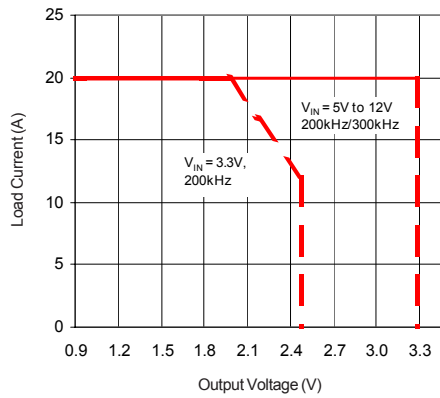

Fig 5. Recommended Operating Area
- ① For Vin less than 4.5V requires external 5V_{DD} supply.
- ② Can be modified to operate up to 3.3V_{OUT}, outside of DAC settable range. See Design Guidelines on how to set output voltage greater than 2V.
- ③ See design guidelines.
- ④ See Fig. 5 for Recommended Operating Area
Note: If input voltage <5V in nominal operation is required then first see Fig. 5 for maximum current capability limit.